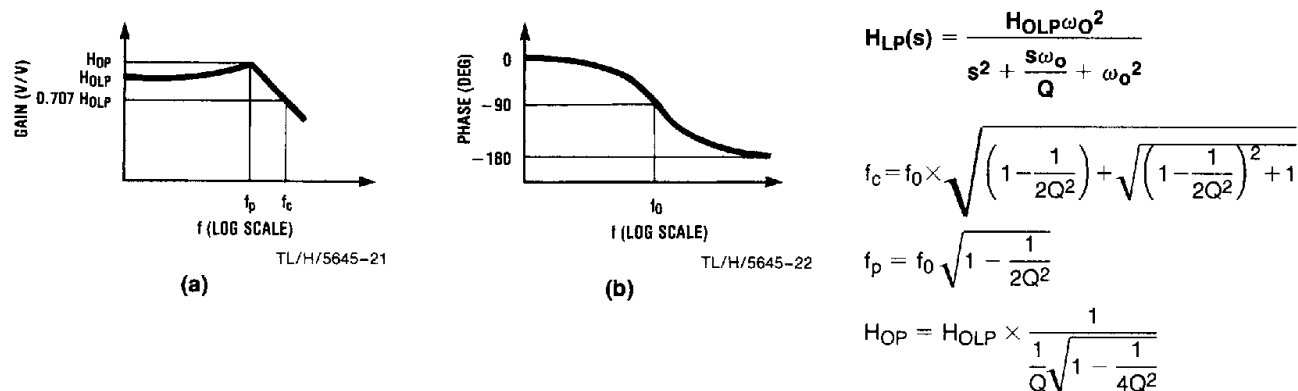

FIGURE 2. 2nd-Order Low-Pass Response
**$H_{OLP}$** : the gain (in V/V) of the lowpass output as  $f \rightarrow 0$  Hz (Figure 2).